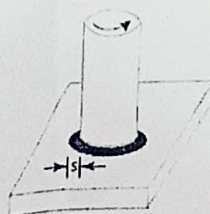

Fig.1
- (b) A 50 mm diameter solid shaft is welded to a flat plate by 10 mm fillet weld as shown in Fig.1. Find the maximum torque that the welded joint can sustain if the maximum shear stress intensity in the weld material is not to exceed 80 MPa. (CO3)